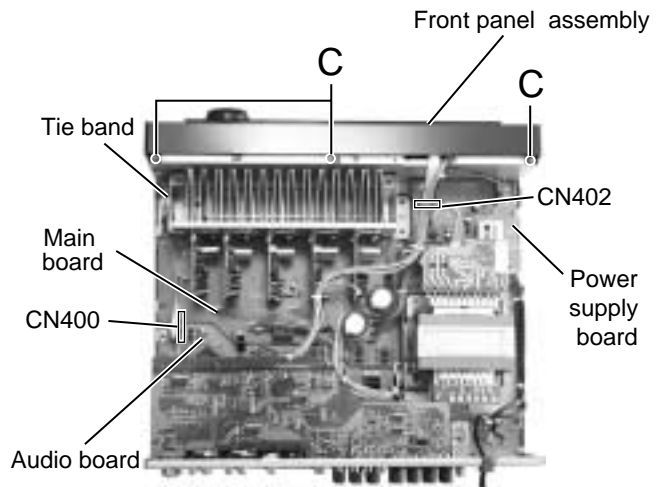

Fig.2
■ Removing the front panel assembly (See Fig.2 to 4)